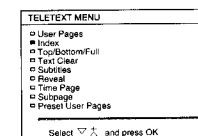

Fig. 41
- 2 Using Δ or ∇ -, select the teletext function you want and press OK. (See Fig. 41)